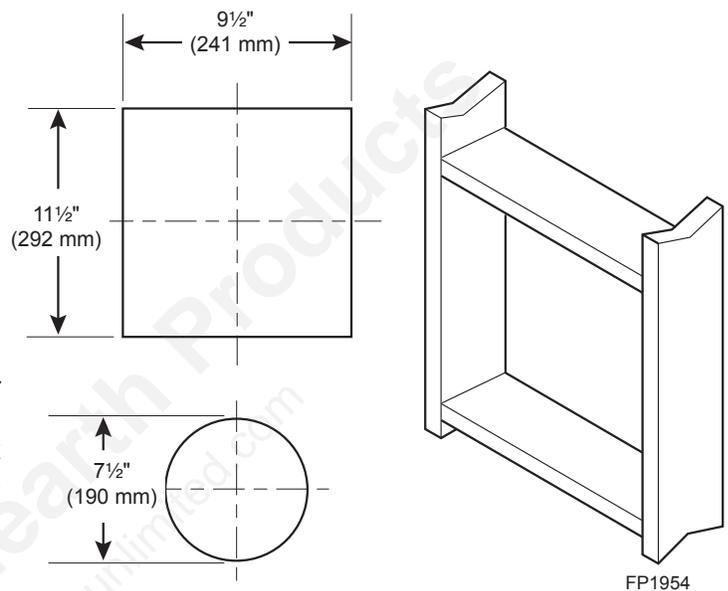

Figure 18 - Vent Opening Requirements
Combustible Walls: Cut a 11½"H x 9½" W (292 x 241 mm) hole through the exterior wall and frame as shown. *Figure 18*
3. Attach vent pipe assembly to the fireplace. Set fireplace in front of its permanent location to insure minimum clearances. Mark the wall for a 11½"H x 9½"W (292 x 241 mm) rectangle hole (for noncombustible material such as masonry block or concrete, a 7½" [190 mm] diameter hole is acceptable). *Figure 18*. The center of the hole should line up with the center line of the horizontal rigid vent pipe end. Be sure to allow for minimum rise. Cut a 11½"x9½" rectangle hole through combustible exterior wall (7½" diameter hole if noncombustible). Frame as necessary. Allow 1/4" minimum rise per foot. *Figure 18*
1. Establish vent hole through the wall. *Refer to Page 18, Figure 18*
3. Cut a hole in the roof using the locating hole as a center point. (Cover any exposed open vent pipes before cutting hole in roof). The 9½" x 9½" (241 x 241 mm) hole must be measured on the horizontal. Actual length may be larger depending on the pitch of the roof. There must be a 1" minimum clearance from the vent pipe to combustible materials. (Insulation should be considered a combustible material) Frame the opening as shown on Page 18, Figure 18.